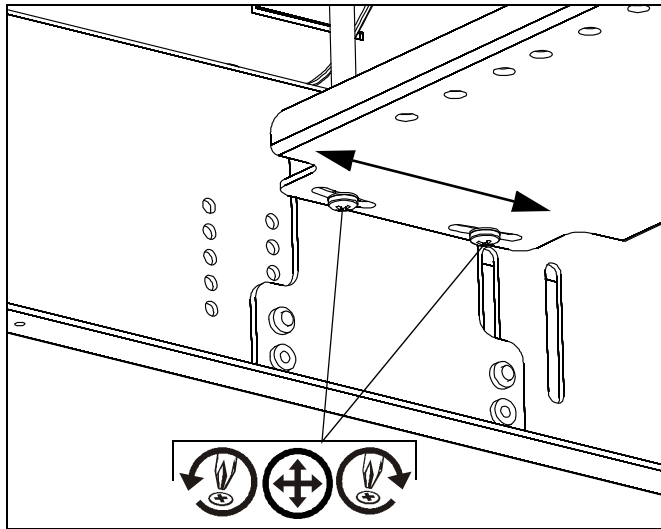

Figure 12
- Adjust one or the other side of the bracket backward or forward by loosening two screws on each side. (See Figure 12)
- Tighten screws. (See Figure 12)